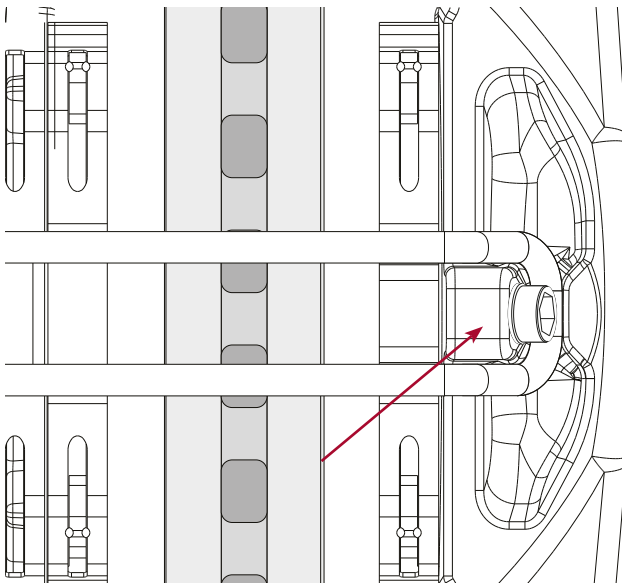

Figure 131: Dial Gauge Measuring Point on Calliper
2. Attach dial indicator firmly to brake carrier or axle. Mount so that the measuring pin touches the calliper at a convenient point near the pad retaining bar bolt. Refer Figure 131.